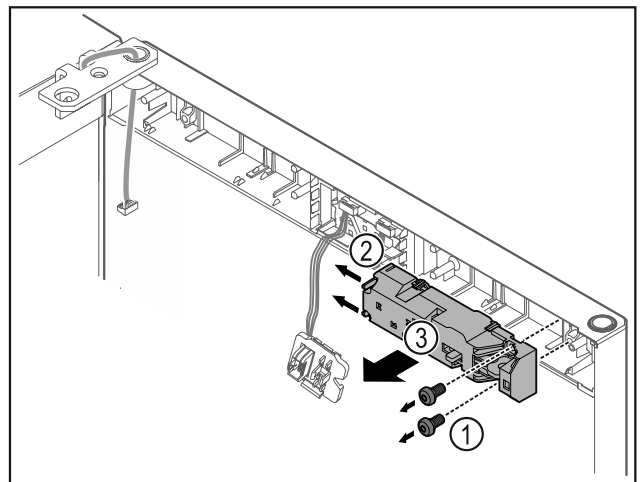

Fig. 12
- Remove the screws Fig. 12 (1).
- Press the latching lugs Fig. 12 (2) to the side and take off the remote lock Fig. 12 (3).